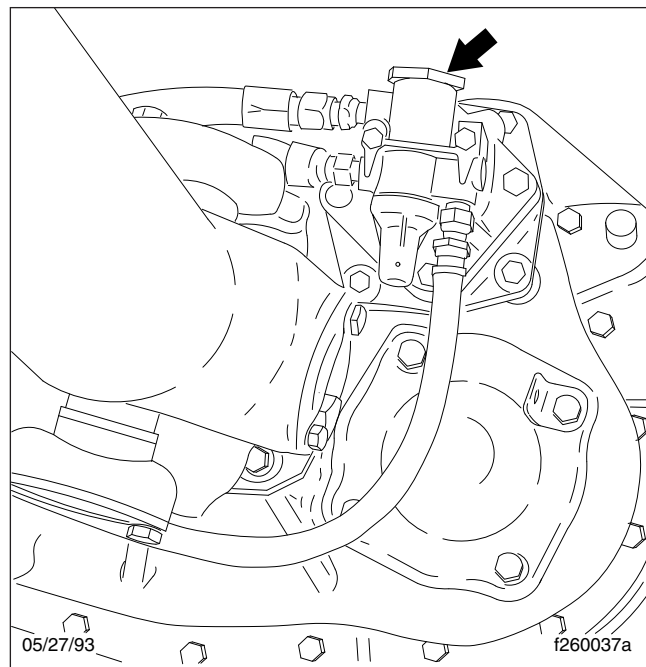

Fig. 8, Air Filter/Regulator Location
2. Clean the outside of the air filter/regulator with cleaning solvent. See **Fig. 8**.